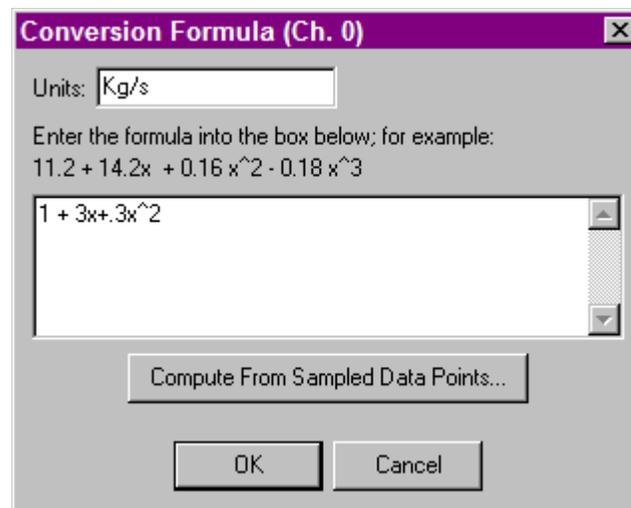

Figure 2-19 Dialog Box for Computing Units Conversion Equation
- STEP 1:** In the configuration screen for your analog input layer, make sure that the input you want to work with is “enabled”. Then click in the Conversion column for that particular analog input. The dialog box shown in **Figure 2-19** then appears.